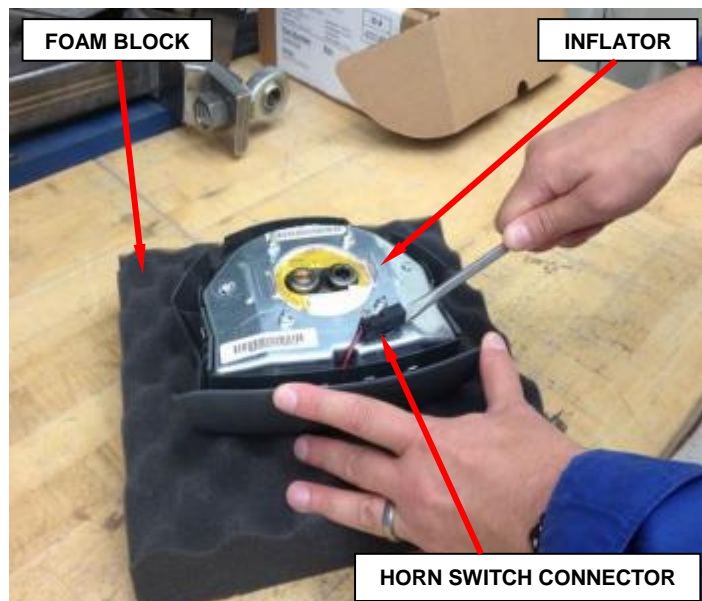

Figure 4 – Horn Switch Connector
8. Place the driver airbag on a soft surface to prevent damage using the foam block provided with the inflator kit (Figure 4).
9. Remove the horn switch connector from the inflator assembly using a flat head screwdriver (Figure 4).